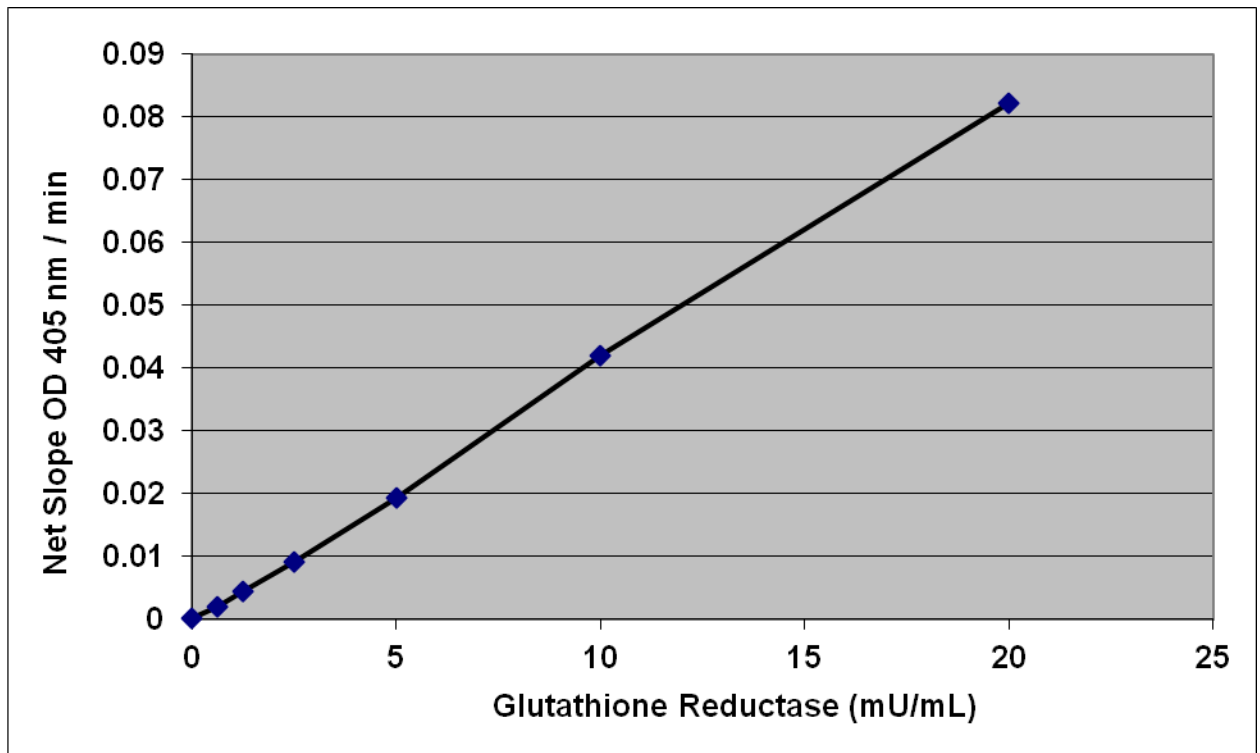

Figure 3: Glutathione Reductase Standard Curve (Net slope versus Glutathione Reductase concentration).
4. Plot the net slopes of the glutathione reductase standards against the microunits/mL concentration of glutathione reductase. See Figure 3 under Example of Results below.
5. Compare the net slopes of the samples with the standard curve from Figure 3 and determine the microunits/mL concentration of glutathione reductase for each sample.